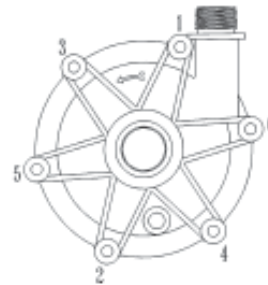

Figure 5
11. Reassemble the wet end by placing the impeller (items 18 and 19) onto the ceramic shaft in the column housing adapter (item 15). Install the housing o-ring (item 16), and lubricate with a compatible lubricant. Align the marks made on the housing (item 21) and the column housing adapter (item 15) during disassembly. Install the impeller housing (item 21) onto the column housing adapter taking care not to dislodge the o-ring. Align the bolt holes and install the six mounting screws (item 22). Use a Teflon thread lubricant on the PVDF screws. Following the pattern in Figure 5, carefully tighten using a screwdriver. Do not overtighten the screws (recommended maximum torque is 25 in-lbs. Reach into the suction and spin the impeller with your finger to verify it is not rubbing or binding.